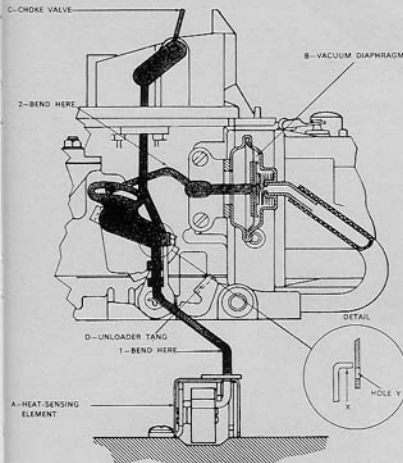

Fig. 7
For cold engine starting, an automatic choke on the center carburetor provides correct enrichment and increased idle speeds during warmup to prevent hesitation and stalling. The automatic choke (Figure 7) includes both a heat-sensing element (A) mounted in a well in the intake manifold and a vacuum-operated diaphragm (B). Fast-idle steps on the fast-idle cam (not shown) reduce engine idle speed as the engine warms up. At normal operating temperature, the choke is fully off and the choke valve (C) then should be fully open (as illustrated). An unloader tang (D) may be manually operated to open the automatic choke fully should the engine flood. If the engine floods, hold the accelerator to the floor and run the starter with the ignition key. Do not pump the accelerator—this will only increase flooding.
3. **AUTOMATIC CHOKE**—Make preliminary adjustment with engine cold. Hold choke valve closed with rubber band. Remove clips from deep well choke lever (Figure 7). Correct setting of cold choke to operating lever occurs when bottom edge of the top end of the rod (X) is even with top of the hole (Y) in the choke operating lever (see detail). Adjust, if necessary, by bending choke rod at point 1. Remove rubber band from choke plate and insert choke rod into operating lever. Choke valve will open correct distance. Now adjust vacuum unit. Hold choke valve closed with rubber band. Measure distance between choke valve lower edge and throttle body. If necessary, bend vacuum rod at point 2 to achieve desired distance.